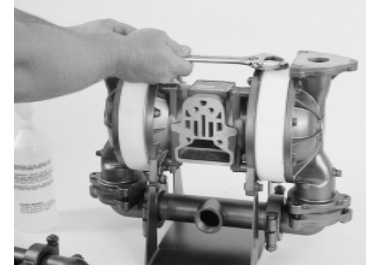

Fig. 5 Tighten the boss plug.
6. When the driver fluid rises to the top of the fill plug hole, screw the boss plug, with o-ring installed, into the chamber (see Figure 5). (Do not overtighten.) Remember to keep pressure on the PTFE diaphragm until the boss plug is tight to prevent air from drawing back into the chamber.